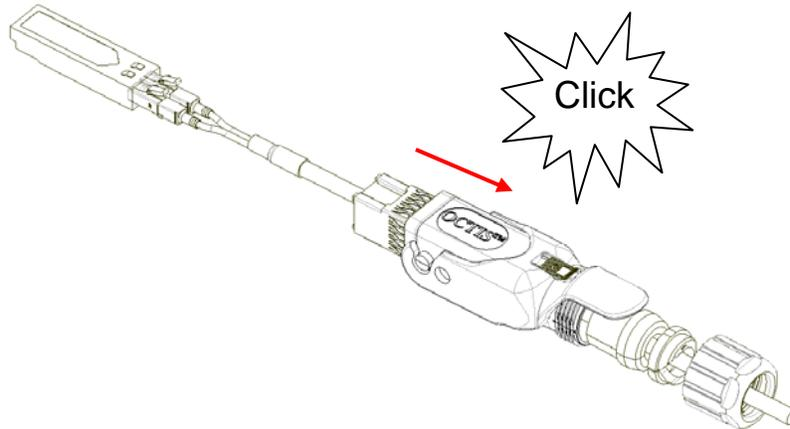

Figure 10
5. Fix the holder subset kit into the housing subset kit (Fig 10). Can hear a click sound